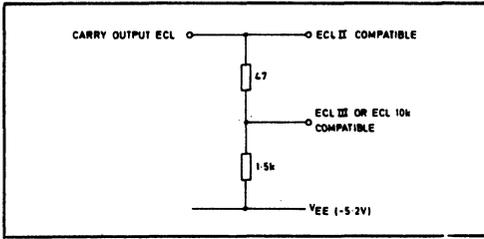

Fig. 3 ECL III/ECL 10000 interfacing
- The ECL carry output is compatible with ECL II throughout the temperature range but can be made compatible with ECL III using the simple interface shown in Fig. 3.